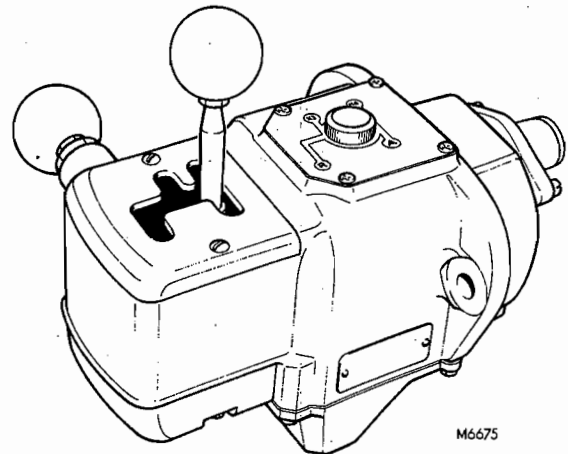

FIG. 1. SELECTOR SWITCH
1. Gear Selector Switch, Fig. 1